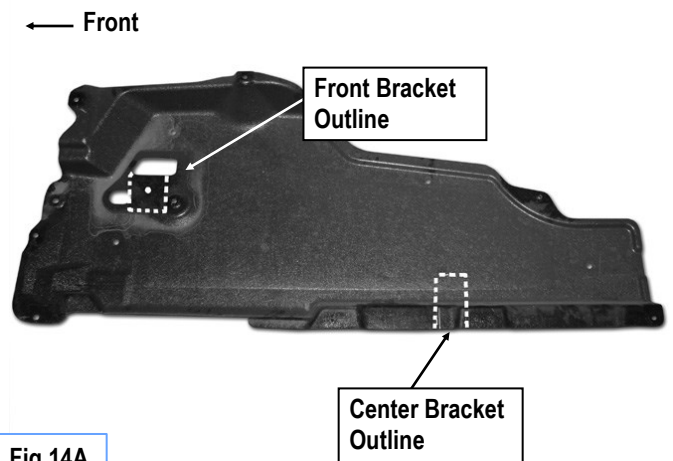

Fig 14A
Attach the driver side Front Mounting Bracket to the back of the Support Bracket with (1) M8X1.25-30mm Hex Bolt, (2) M8 Large Flat Washers, (1) M8 Lock Washer and (1) M8 Hex Nut, (Fig 13). Do not fully tighten hardware at this time. Hold the inner end of the Mounting Bracket up against the plastic cover and over the Bolt Plate. Trace the outline of the Bracket onto the cover, (Fig 14A).